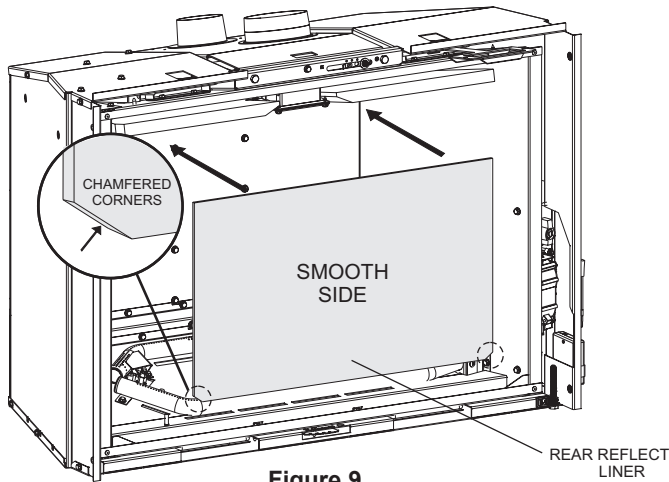

Figure 9
9. Center rear liner along rear wall with smooth side forward. Angle top of liner against rear wall with chamfered corners toward the bottom. **See Figure 9.**